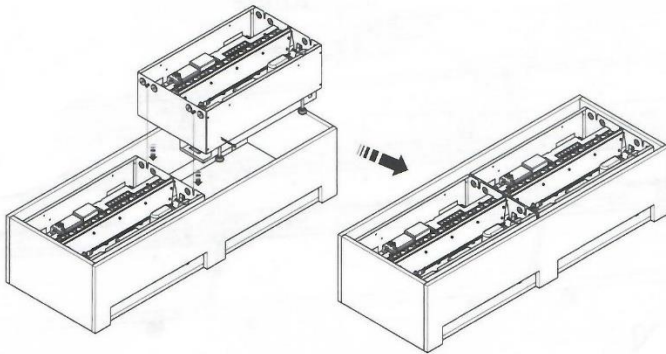

Fig. 21
2. Fit the second product beside the first product, ensuring the protruding screws of the second product engage with slots of the first product (Fig. 21).